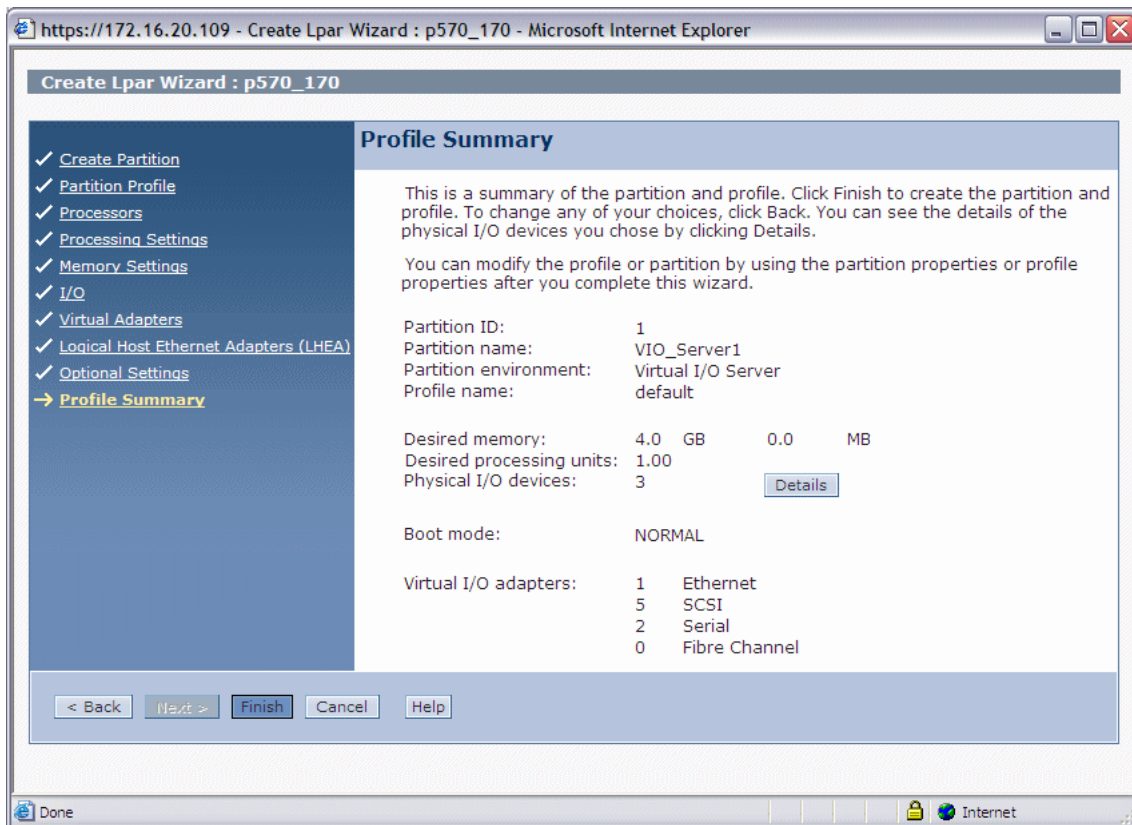

Figure 12-18 HMC Menu Profile Summary
16. The Profile Summary menu shows details about the partition configuration (Figure 12-18). You can check details about the I/O devices by clicking **Details**, or click **Back** to go back and modify any of the previous settings. Click **Finish** to complete the Virtual I/O Server partition creation.